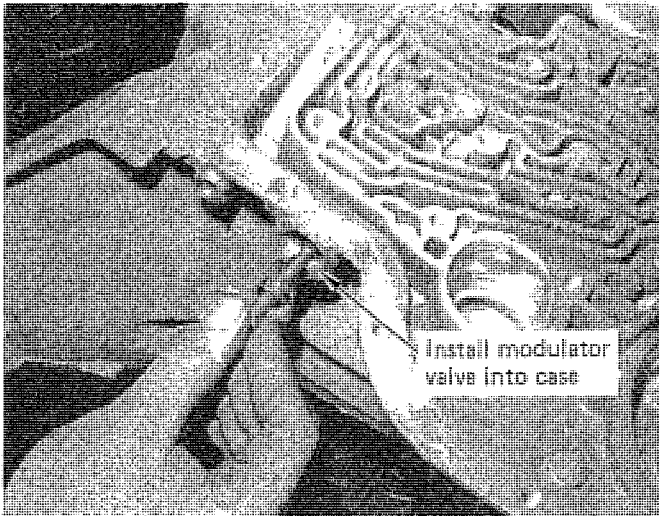

FIGURE 44
STEP 4. Install the modulator valve into the case. (See Fig. 44) The valve should move freely with no bind. If any sticking is encountered deburr the valve with a stone and work the valve in and out carefully until it frees up. Remove the valve and blow out the bore to remove dirt. Install the modulator valve.